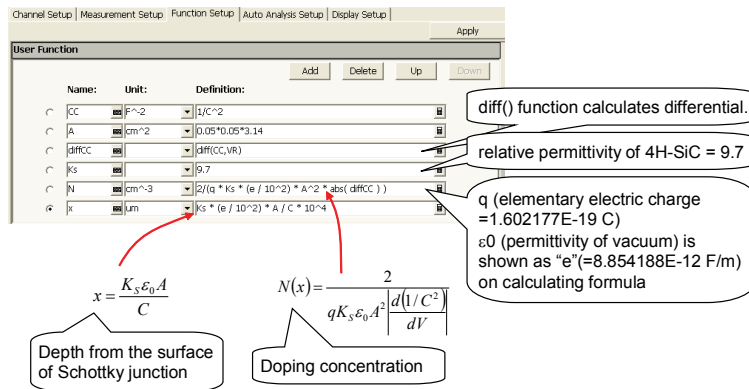
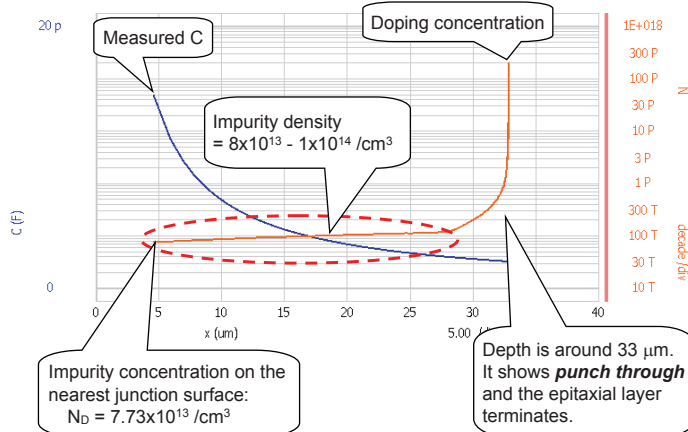

Figure 26. User function definitions to calculate the doping profile from a CV characteristic
Figure 27. Doping profile example of 4H-SiC SBD retrieved from CV measurement
Equations (4) and (7) can be defined as user functions as shown in figure 26 to obtain the doping profile (doping concentration versus position) automatically. Figure 27 shows an example of a SiC SBD doping profile extracted from a CV measurement. This result shows both that the doping density is roughly uniform with a value of 10^{14} cm^{-3} and that the epitaxial layer depth is approximately $33 \mu\text{m}$. It also shows that when the depletion region reaches the substrate the doping density is as high as 10^{17} cm^{-3} .